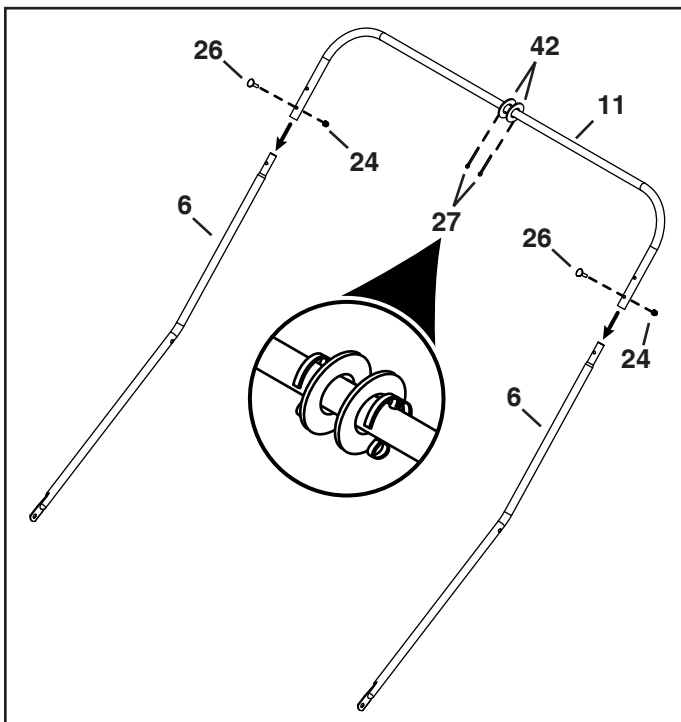

FIGURE 10
STEP 10: (SEE FIGURE 10)
- Place two washers (42) between the middle holes in a rear hopper tube (11). Install two cotter pins (27) into the holes, spreading the ends around the tube.
- Assemble the rear hopper tube (11) to the two upper hopper tubes (6) using two 1/4" x 1" curved head bolts (26) and 1/4" nylock nuts (24). The bolt heads should face up as shown in figure 10.